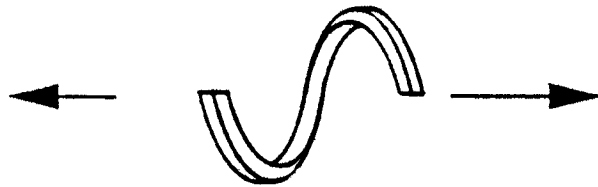

FIG. 8A.
d) To install packing rings, do not pull straight. Expand the coil as a coil spring, see Fig. 8A and 8B for the correct and incorrect method of installing packing. Note the location of the lantern ring prior to packing installation. The lantern ring and packing locations are different for the weep and flush arrangements. See section V-F sectional view.